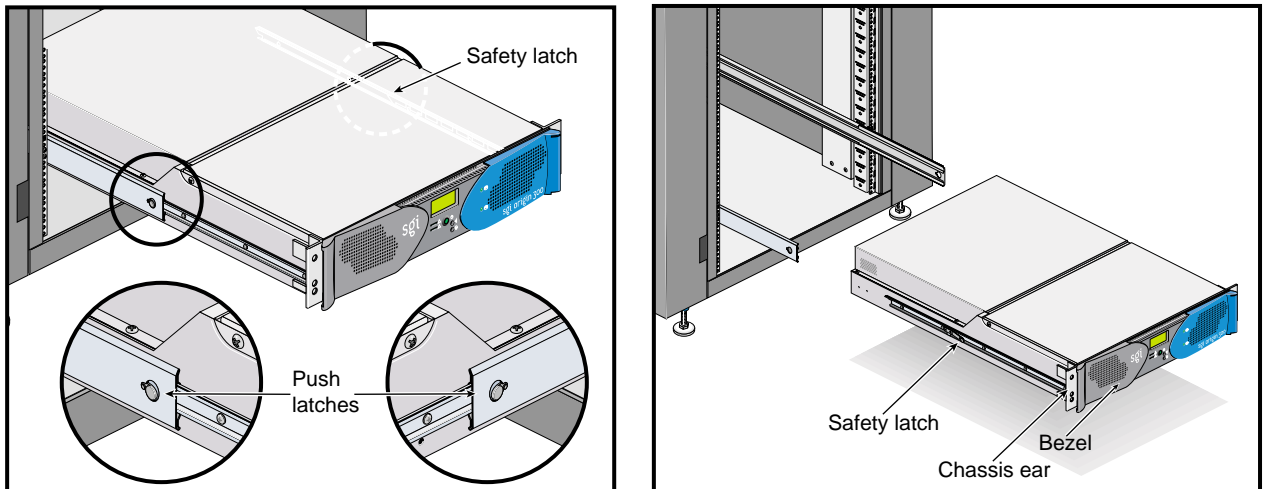

Figure 2-11 Releasing the Safety Latches
Caution: Do not lift the server by its bezel; it is not designed to handle the weight of the server. Instead, use the chassis ears to move the server (refer to Figure 2-11).
5. With one person holding each side, release the safety latches on both sides of the server and pull the server out of the slide rail (refer to Figure 2-11).